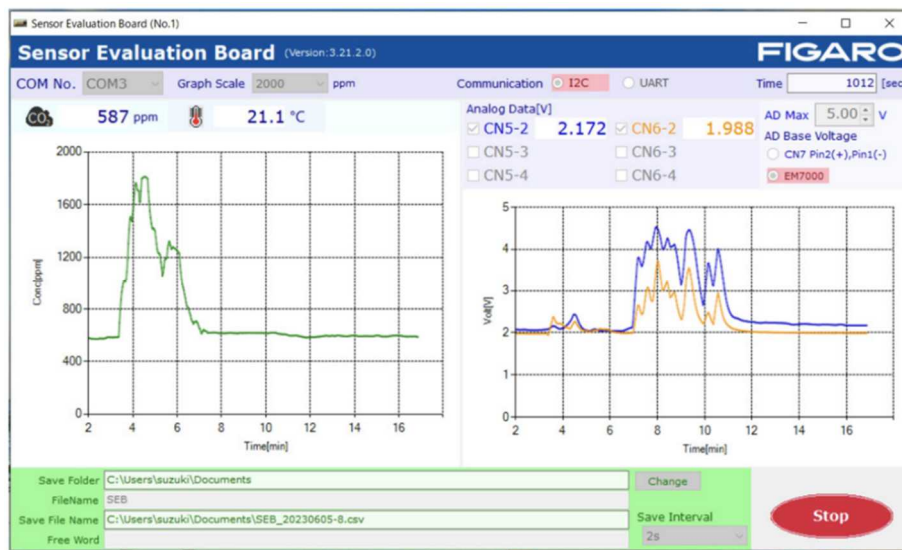

Figure 9 – Measurement Data Display Example
- (12) Starting measurement
- The measurement data for the most recent 16 minutes will be displayed on the screen at the measurement interval of 2 seconds (see Figure 9).